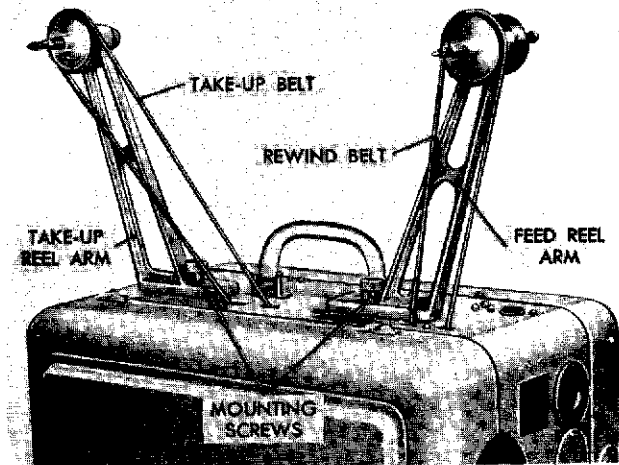

Figure 1-12. Reel Arms and Belts Installed
- a. When not in use, the reel arms are mounted inside the case door (figures 1-2 and 1-2A). Remove the reel arms by loosening the knurled locking screw on each arm. The feed reel arm mounts at the front of the projector case and the take-up reel arm at the rear (figure 1-12).
- b. On AQ-2A(1) projectors, the reel arms can be installed and tightened down before looping the spring belts over the reel arm pulleys. Make certain that the belts are engaged in their respective pulleys within the projector and that the belts are not twisted.
- c. On AQ-2A(3) projectors, the fabric belts should be engaged with their respective pulleys within the projector and looped over the reel arm pulleys before the reel arms are seated and tightened down. Hold the reel arms in position on the case, but tipped slightly toward front of projector, while looping belts over pulleys. Then seat the reel arm and tighten the knurled screw. Adjust belt tension, if necessary (paragraph 4-19).